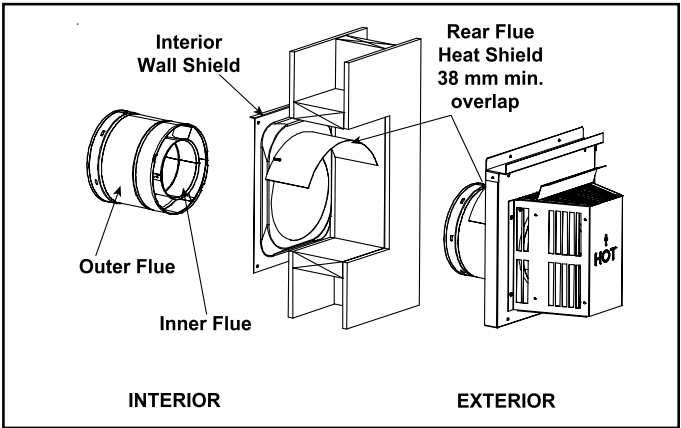

Figure 10.16 - Venting through the Wall
- One section of the heat shield is attached to the wall shield. The other is attached to the termination cap in the same manner (see Figure 10.16).
- The small leg in the shield rests on top of the flue to properly space it from the pipe section (see Figure 10.16).